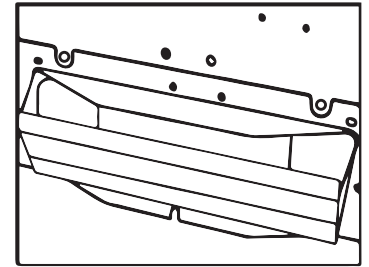

Figure 5
- Using the supplied screws, attach the rectangular vent/damper to the rear of the range hood (see figure 5).